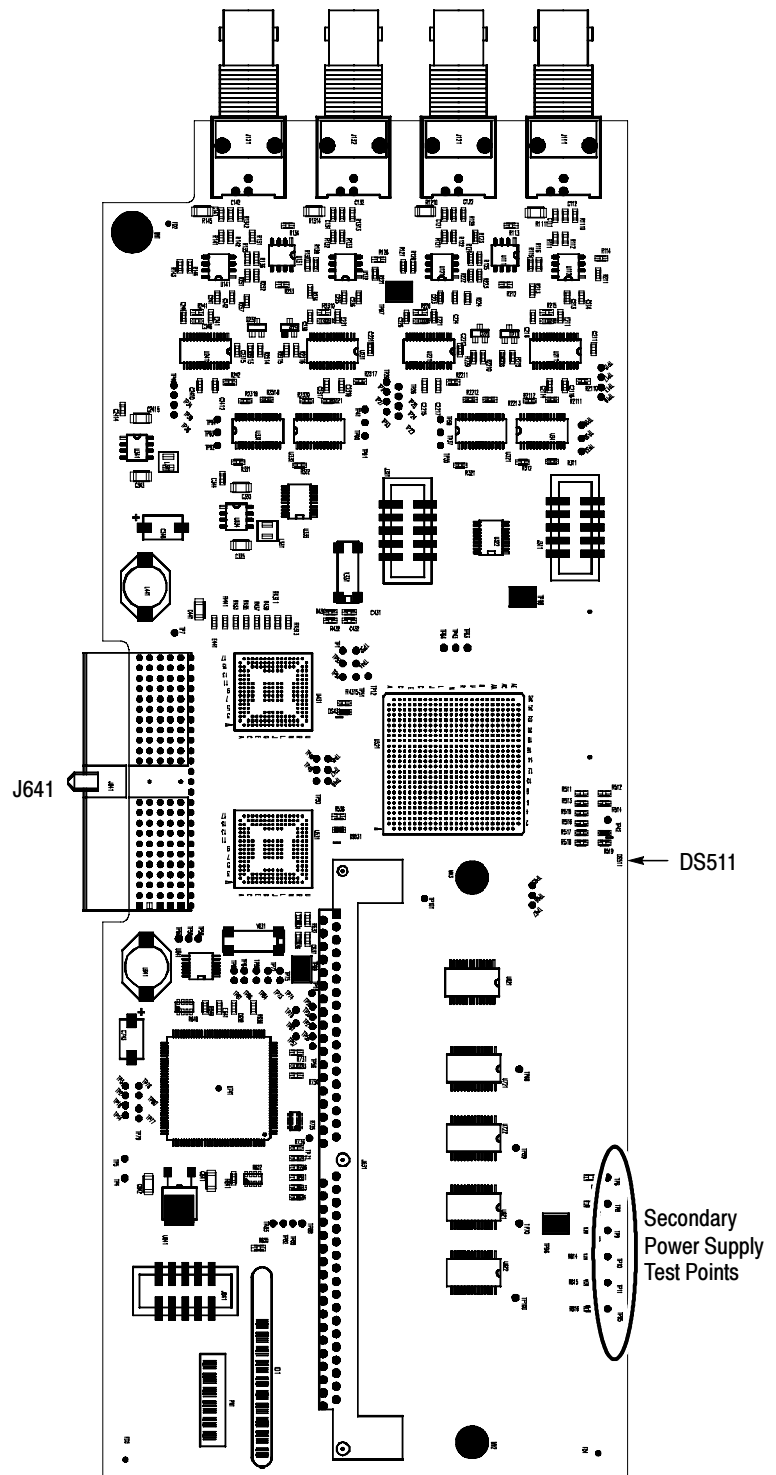

Figure 4-2: Audio Main board power supply test point locations
- a. Check audio board DS511, the FPGA programmed indicator (see Figure 4-2 on page 4-24). If this LED is off, skip to step b; otherwise probe pin D21 of connector J641 of the Audio board (the connector to the Main board) during the boot sequence. If the signal on the pin toggles, replace the main board; otherwise, replace the audio board.